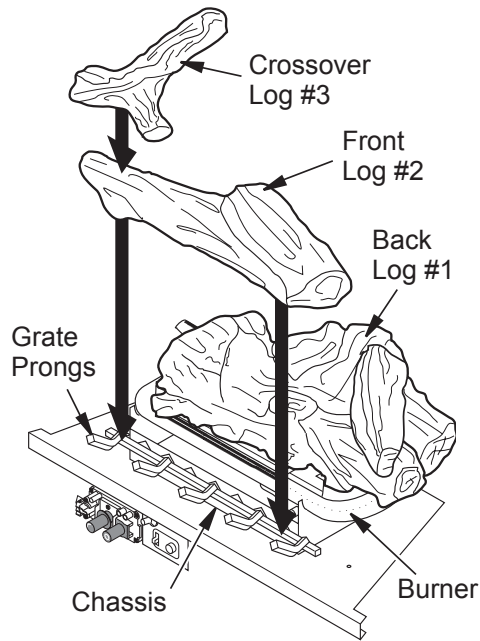
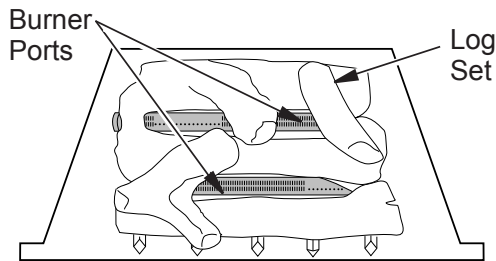

Figure 23 - Installing Log Set
Figure 24 - Installing Log Set (Top View)
1. Place back log #1 on grate to fit as illustrated in Figure 23. Make sure middle section at bottom of log set is seated into "U"-shaped cutout in center of chassis (see Figure 23, page 15). **IMPORTANT:** Make sure log does not cover any burner ports (see Figure 24, page 15).
2. Place front log #2 against front grate prongs as shown in Figure 23, page 15.
3. Place crossover log #3 on top of front and back logs as shown in Figure 23, page 15.